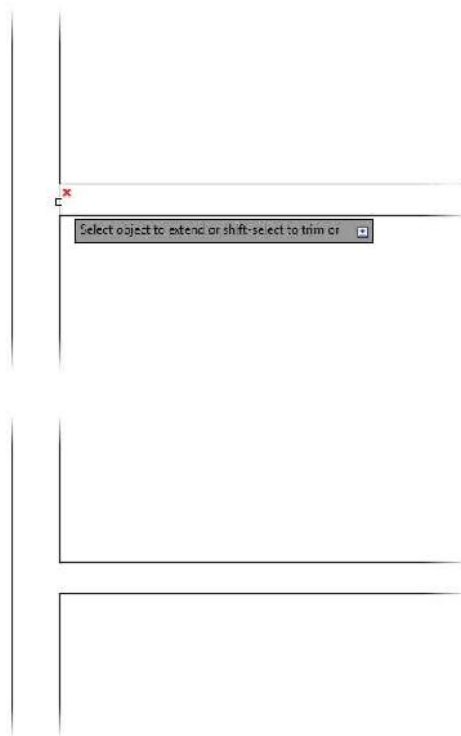

FIGURE 4.21: Selecting a line to be trimmed (top) and the result of the EXTEND command used in conjunction with the Shift key (bottom)
6. Press and hold the Shift key while you select the inside exterior wall line at the T-intersection that is between the two intersections with the interior wall lines that you have just picked as boundary edges (see the top of Figure 4.21).
The exterior wall line is trimmed at the T-intersection (see the bottom image of Figure 4.21). Press the spacebar to end the EXTEND command.